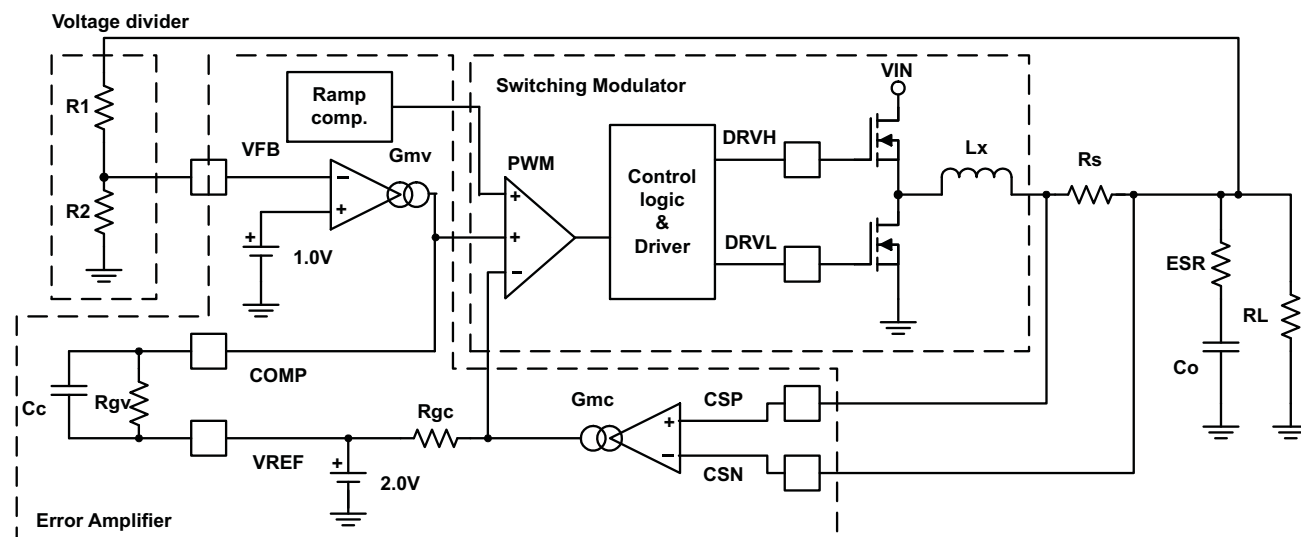
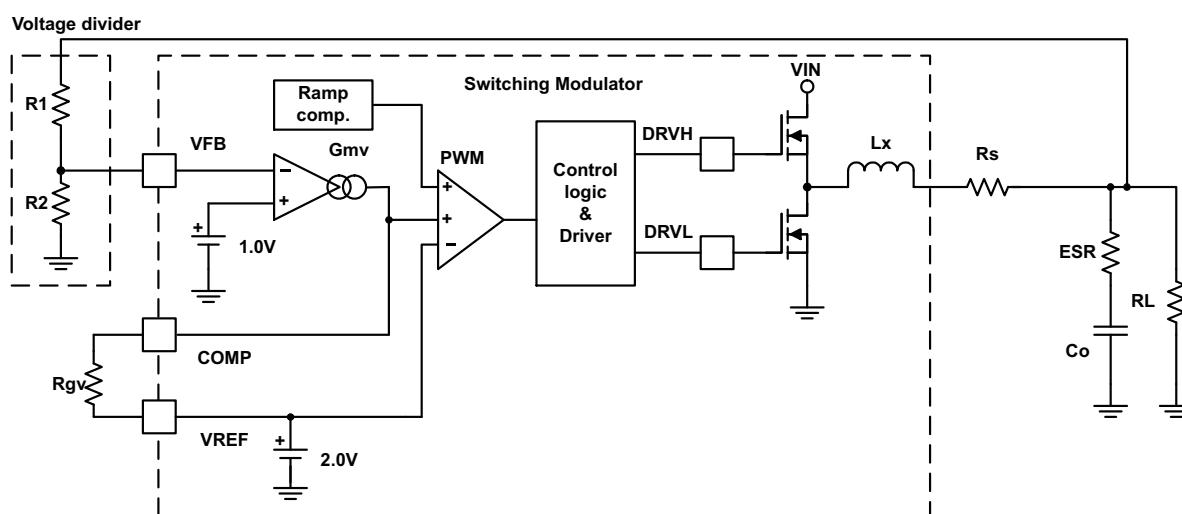

Figure 44. Simplified Current Mode Functional Blocks
Figure 45. Simplified D-CAP Mode Functional Blocks
A buck converter using the TPS51220A-Q1 consists of linear circuits and a switching modulator. Figure 44 and Figure 45 show basic scheme.
1. **Determine output voltage dividing resistors.** (R1 and R2: shown in Figure 44) using Equation 7 .